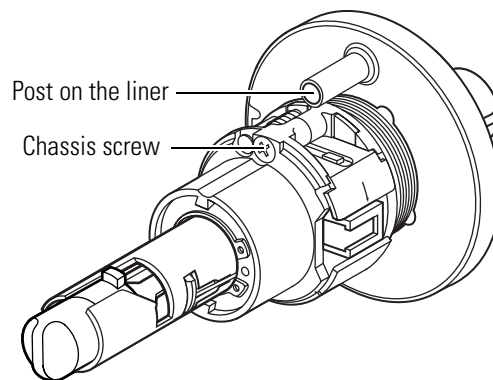

Figure 3.7 Reinstalling the outside rose
4. With the rose locking pin still retracted, rotate the rose and liner assembly back off the hub. When the posts on the liner align with the chassis screws, release the rose locking pin into the indent in the liner. See Figure 3.7. The pin should lock into the rose liner.